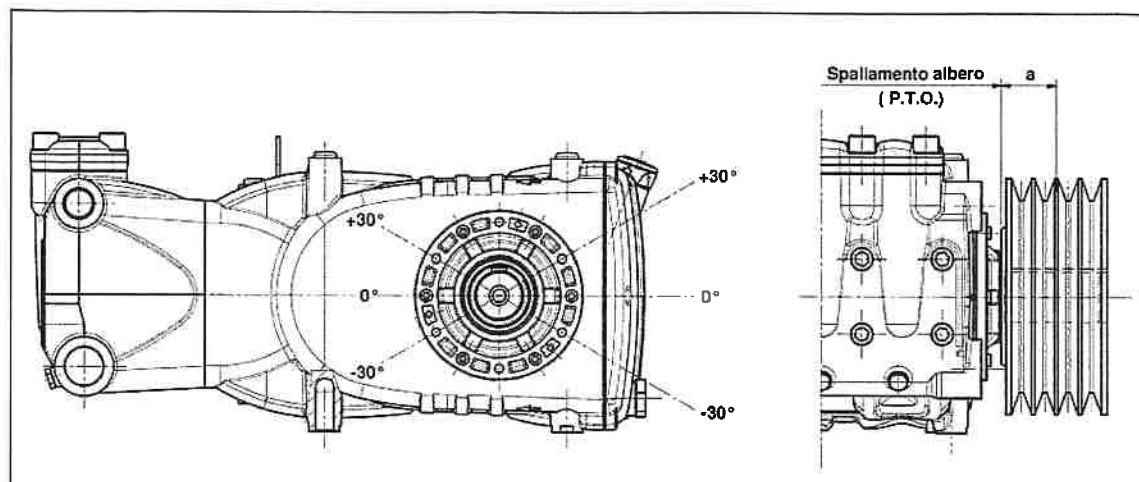

fig. 10
The transmission is considered adequate if this load is applied at a maximum distance of $a=40$ mm from the shaft shoulder (P.T.O) as indicated in fig. 10.
- b) Use high efficiency belts – for example **XPB** instead of **SPB**; this will allow to use a lower number of belts to transmit the same power, and consequently a minor distance of the resultant from the shaft shoulder (P.T.O.) "a" in fig. 10